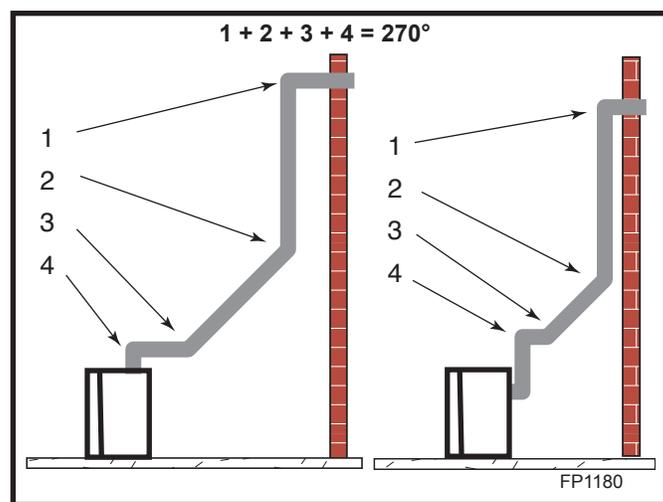

Fig. 30 Maximum elbow usage.
- The maximum number of 45° elbows permitted per installation is six (6). These elbows can be installed in either the vertical or horizontal run.
- The maximum number of elbow degrees in a system is 270°. (Fig. 30)